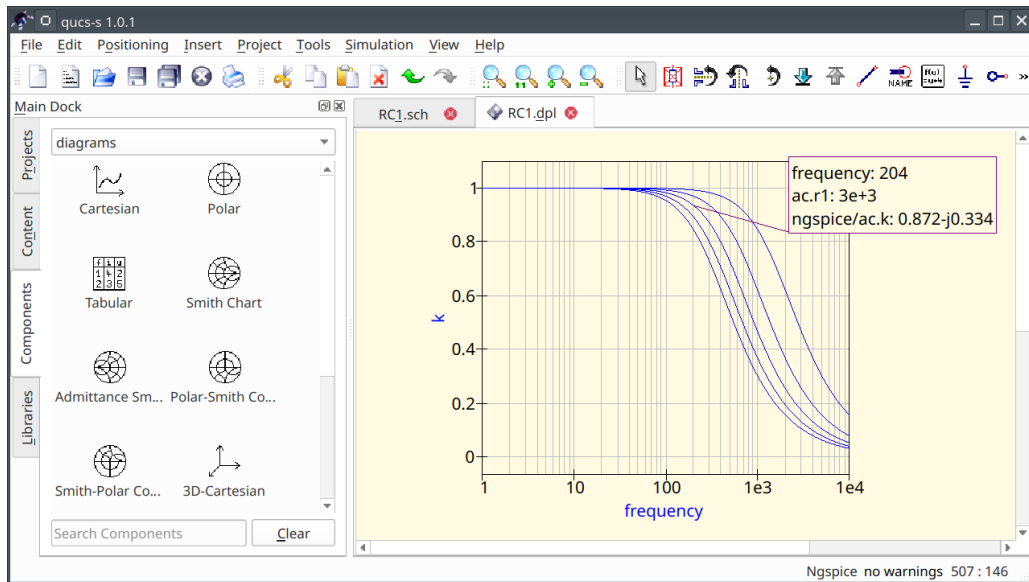

Figure 15: Magnitude response of the RC-circuit with the parameter sweep
- **Step 3:** Run the simulation and place the diagrams as for usual simulation (Figure 15). You should see the family of the curves. You may place a marker on the diagram and move it between the sweep curves with *Arrow Up* and *Arrow Down* keys.